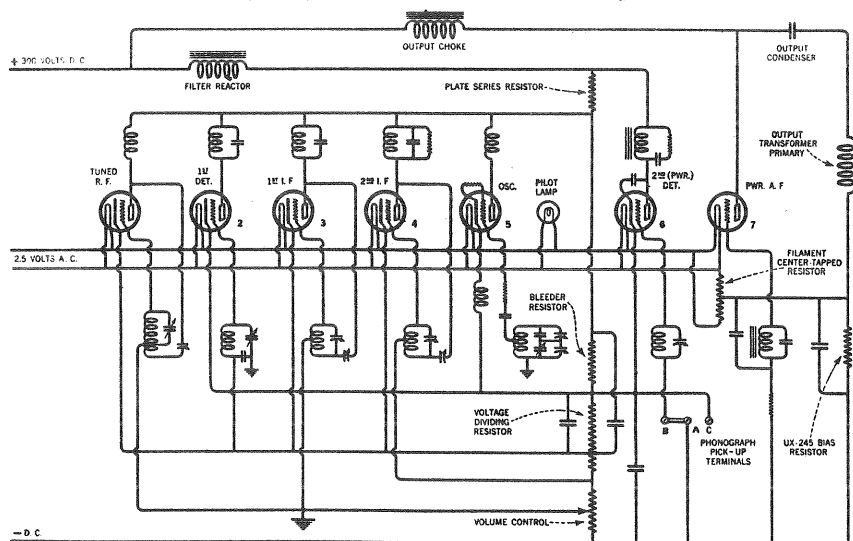
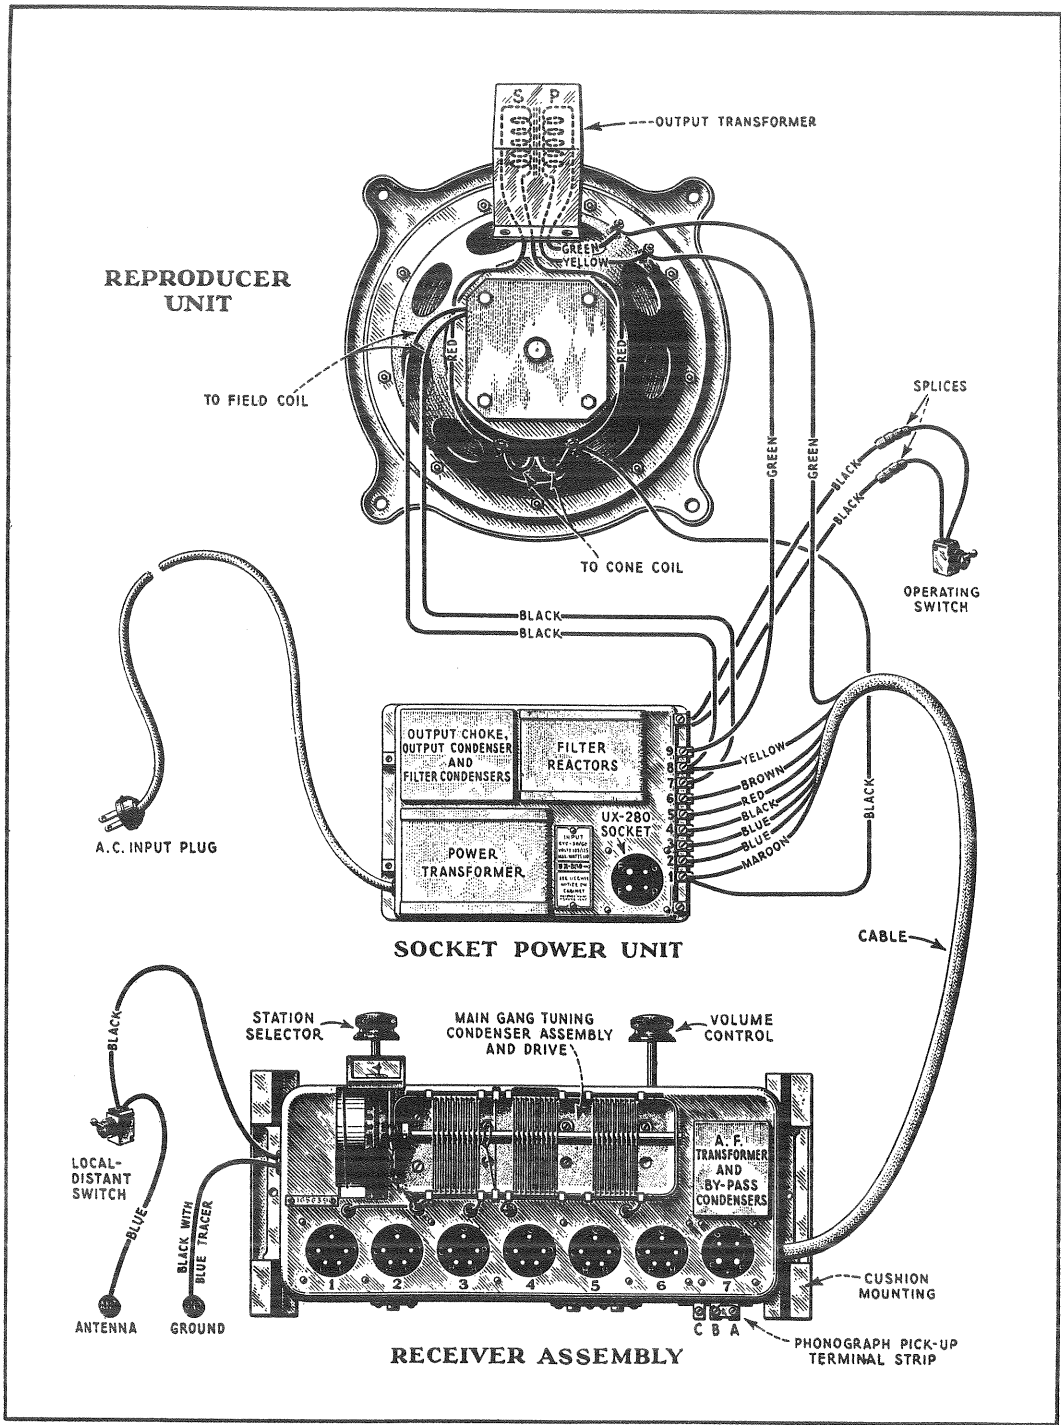

Figure 19—Schematic circuit diagram of the voltage supply system
Figure 22—Radiola 66 cable connections, socket contacts, reproducer unit, socket power unit and receiver assembly
With the test oscillator shown, the two red output leads of the receiver chassis that normally go from the secondary of the output transformer to the cone coil (See Figure 22) should be removed and connected to the output or meter terminals of the oscillator with the clips provided and meter switch thrown to dynamic ("Dyn") position. If the test oscillator is not used, a 0-5 D.C. milliammeter or a 0-2 D.C. milliammeter with 15,000 ohms in series should be connected in series with the brown lead that connects to lug No. 6 (See Figure 22) on the terminal strip. This places the meter in series with the plate supply of the second detector and serves as a very good resonance indicator, as does also the other mentioned method. The speaker cone coil may be connected at any or all the time if the connection assists in any way in tuning to the modulated output of the test oscillator.
The output transformer also can be tested for continuity by applying methods as outlined in Part III, Sections 4 and 7. The connections for the above parts of the reproducer assembly are clearly shown in Figure 22.
Figure 19 shows the method of obtaining the plate, grid, cathode and heater voltages and the high voltage field current from the main source. However, in order to give the service man a complete continuity picture of the voltage circuits it is not abridged, but drawn actually as it is found in the Radiola 66, so that the tracing of voltages and currents are actually done, through the various component parts affected, as shown schematically in a straight line manner.
The following voltages taken at each Radiotron socket with the receiver in operating condition should prove of value when checking with test sets such as the Weston Model 537, Type 2, or others giving similar readings. The plate currents shown are not necessarily accurate for each tube, as the cable in the test set will cause some circuits to oscillate, due to its added capacity. Small variations of voltages will be caused by different tubes and line voltages. Therefore the following values must be taken as approximately those that will be found under varying conditions. The numbers in column 1 indicate the tube socket numbers shown in Figure 22.
A pair of headphones with at least 4½ volts in series, or preferably a voltmeter with sufficient voltage to give a full scale deflection when connected across the battery terminals should be used in making these tests, for example, a 0-50 volt meter with a 45 volt "B" battery. The receiver Radiotron socket contacts, numbers and lugs used in these tests are shown in Figure 22. The receiver continuity wiring diagram is illustrated in Figure 23. The S.P.U. terminal numbers are shown in Figures 6 and 24. The voltage supply schematic (Figure 19) will also be a help in studying continuity.
Remove all Radiotrons and disconnect cable at terminal strip. Remove all ground connections. Remove pilot lamp. See Figure 22 for cable lugs, terminals, and Radiotron socket contacts. For convenience coloring of lugs as well as numbers are shown. Code—Maroon (M), Black (Bla), Blue (Blu), Red (R), Brown (Br), Yellow (Y), Green (G). **First**—inspect all connections to observe any apparent faulty connection, rosin soldered joint, grounded or shorted lugs. Any connection removed or insulated as outlined below should be replaced before the next successive test.